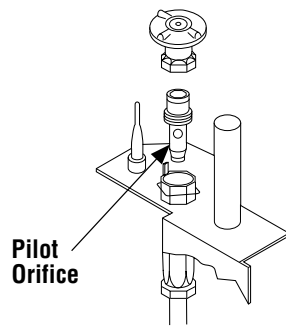

Figure 61
Step 6. Refer to **Figure 61** and remove the pilot hood assembly to access the hexed pilot orifice. Remove and replace the orifice with the one provided with the kit.